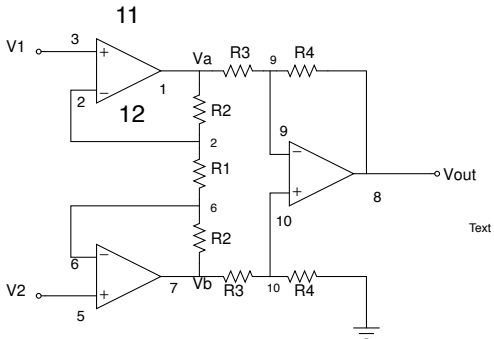

Figure: 1
HERE R_1, R_2, R_3, R_4 REFER TO VALUES IN FIGURE 1, NOT IN THE WHEATSTONE BRIDGE.
- 5 Calculate the values of R_1 , R_2 , R_3 , R_4 as mentioned in Point 2 of Page 10. Here, the resistances refer to the circuit diagram in Figure 1. Please do not confuse this with the Wheatstone bridge.
- 2 Refer to figure 1. Use Load Resistance of 10kohms. $V_+ = 12V$, $V_- = -12V$ to power op-amp. Calculate the values of R_1 , R_2 , R_3 and R_4 properly to get a gain of about 300 (Keep in mind that any arbitrary value of resistance is not available in lab, so your choice of values may be constrained). Apply a single ended signal of 20mV p-p 1kHz sine wave as input to tune the circuit to achieve the required amplification. Use decoupling capacitance if necessary.